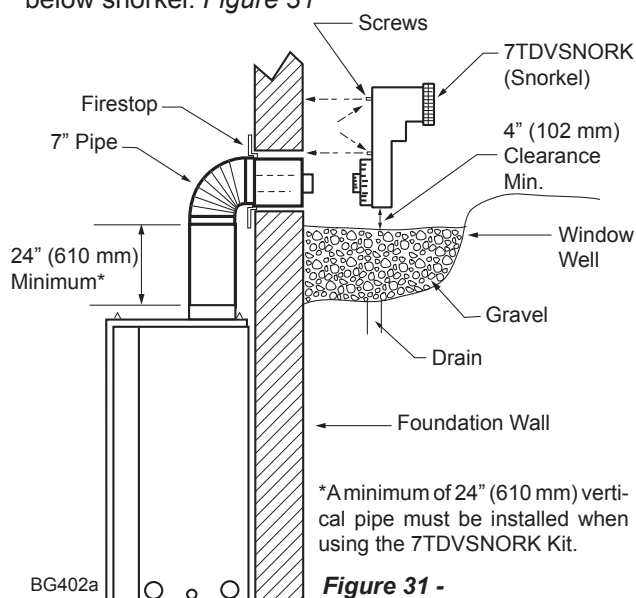

**Figure 31 -
2. Remove soil to a depth of approximately 16" (406 mm) below base of snorkel. Install drain pipe. Install window well (not supplied). Refill hole with 12" (305 mm) of coarse gravel leaving a clearance of approximately 4" (102 mm) below snorkel. *Figure 31*
7. Level the soil so as to maintain a 4" (102 mm) clearance below snorkel. *Figure 31*